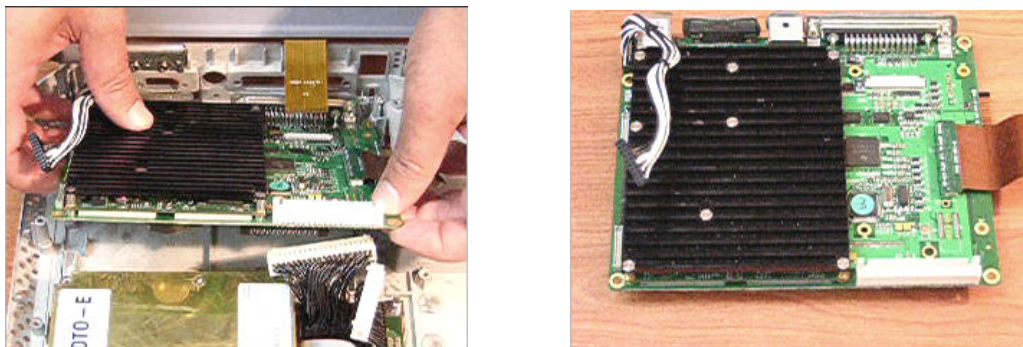

Figure 8-56 Removing the BEP from the Bottom Assembly
- 1) Carefully return the new BEP to the original position on the Bottom Assembly - refer to Figure 8-56 on page 8-48.